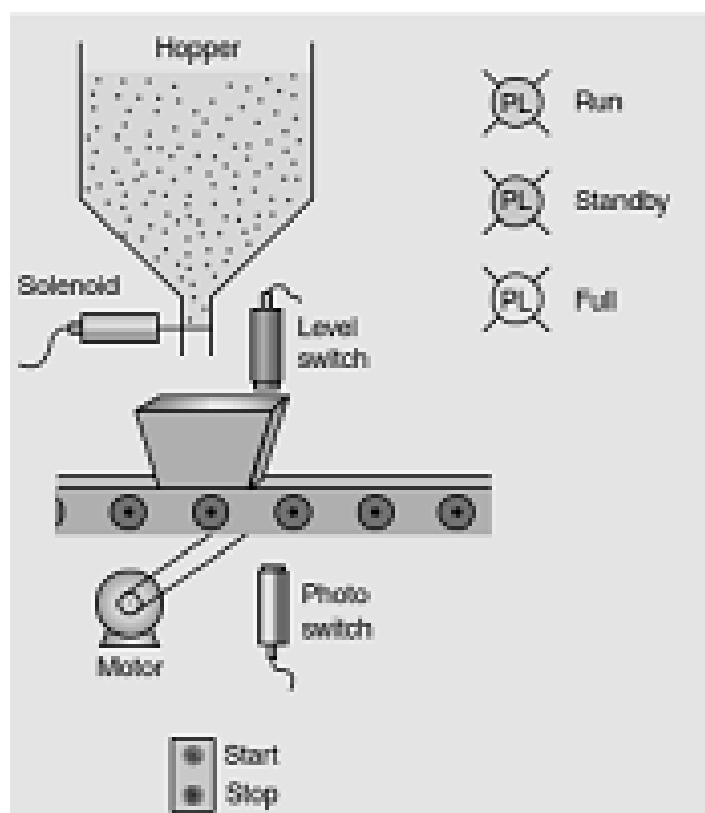

Figure Q5
- (b) Figure Q5 shows the sketch of a continuous filling operation. This process requires that boxes moving on a conveyor be automatically positioned and filled. The sequence of operation for the continuous filling operation is as follows: